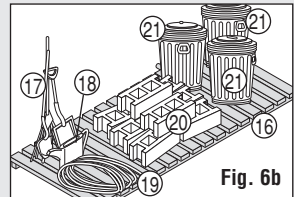

Fig. 6b
- Glue Tool Set (17), Watering Can (18), Hose (19), Cinder Blocks (20), Trash Cans x3 (21) to Large Pallet (16) (Fig. 6b).